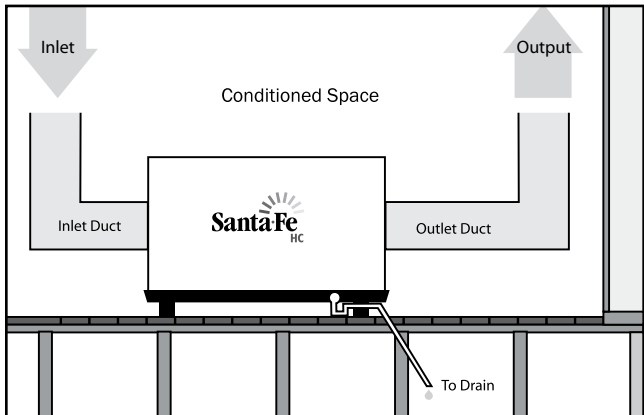

Figure 2: Installation in humid area with inlet and outlet ducting
3.1B In the Humid Area, Duct Inlet and/or Outlet (fig. 2)